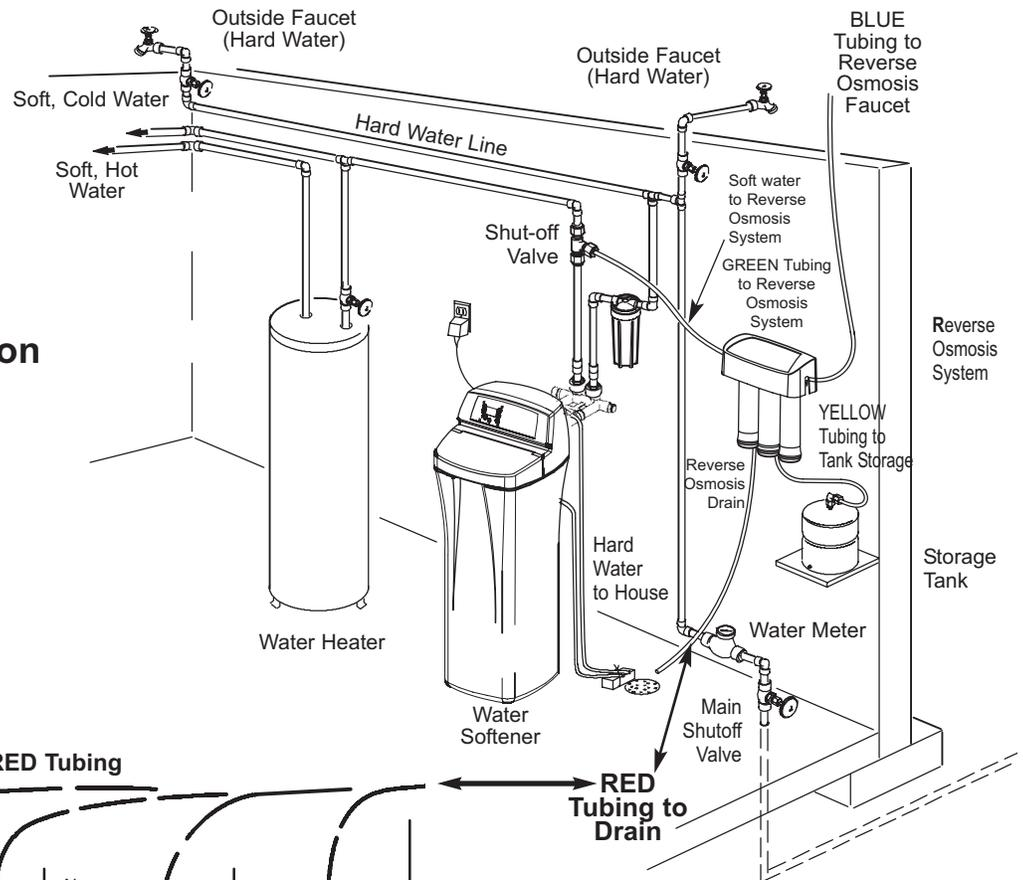
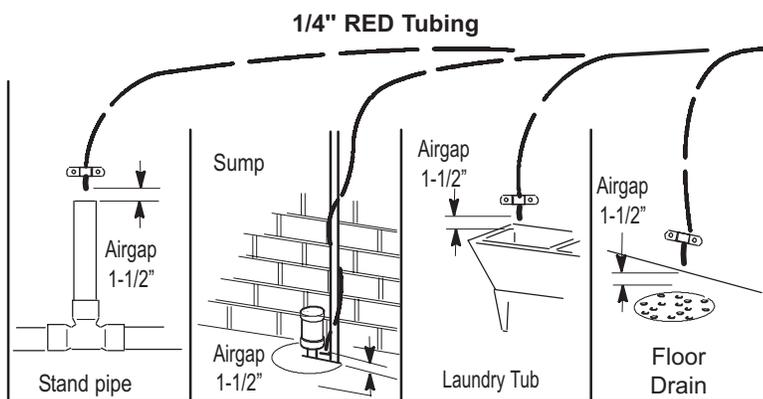

FIG. 9
FIG. 10
(See Fig 9, Fig. 10) This is usually used in remote location type installations. The drain tube from the Reverse Osmosis Filter runs directly to an open drain. See Fig. 9 & 10.
You can also run the drain tubing to an existing drain in the house. A floor drain, laundry tub, standpipe, sump, etc. are suitable drain points. See Fig. 10. This type of drain is the preferred over the p- trap drain adapter. Check your local codes. Longer lengths of tubing (see parts list in back of manual) may be needed.
1. Locate the 1/4" red tubing on the Reverse Osmosis filter assembly. See Fig. 9.
4. Run the tubing to the drain point and secure at the end with a bracket (purchased locally). See Fig. 10. Provide a 1-1/2" air gap between the end of the tube and the drain. See Fig. 10.